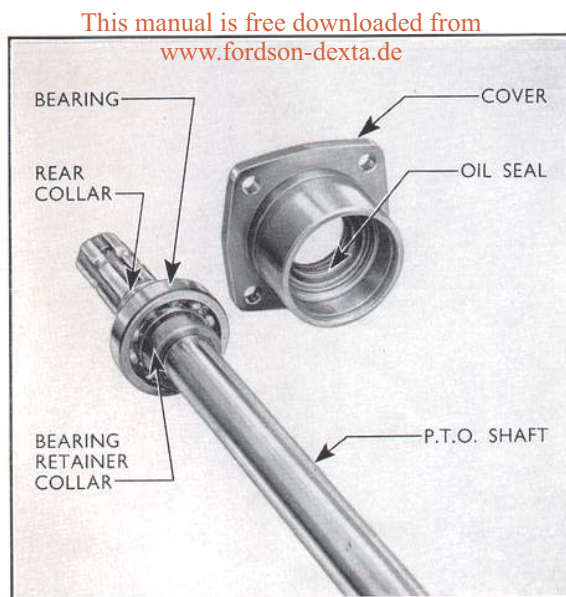

Fig. 29
2. Remove the circlip retaining the P.T.O. bearing in the cover and detach the cover (see Fig. 29).